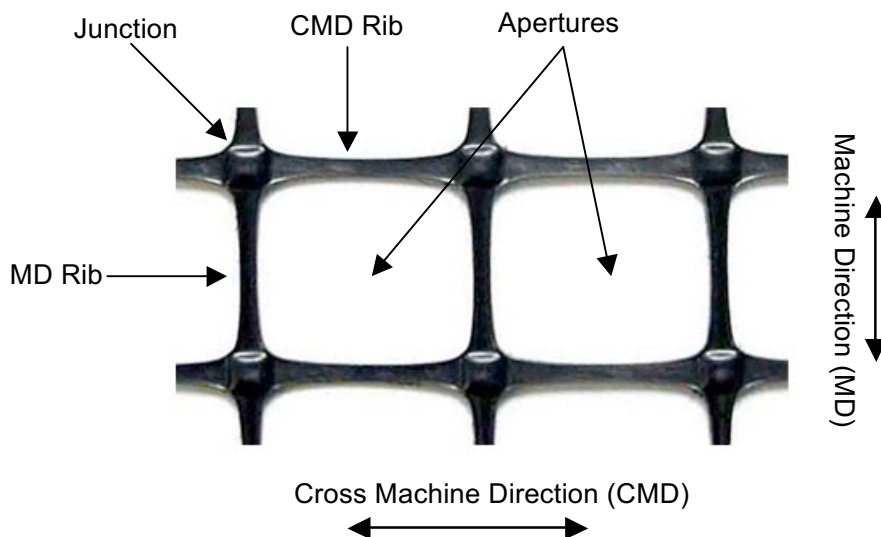

Figure 1: Typical biaxial geogrid structure
TMP is dedicated to providing the highest quality products to its customers. The purpose of this manual is to document the QA/QC procedures used during the manufacture of polypropylene biaxial (BX) geogrids; the general structure of a BX geogrid is shown in Figure 1. The procedures outlined in this document pertain to all stages of the production process for this product i.e. from the receipt of raw materials to shipping of the finished product.